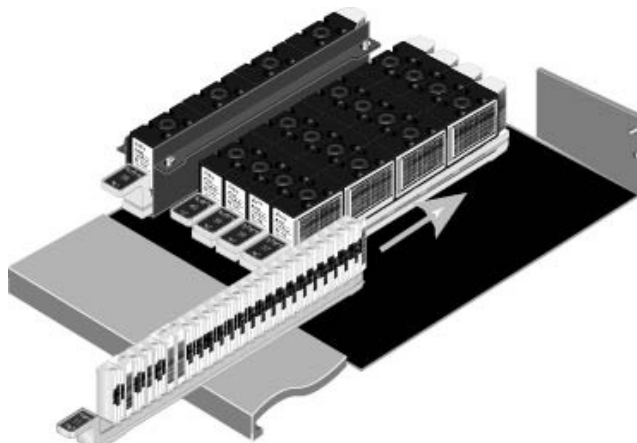

Figure 3.4
- 4 Continue sliding the rack to the back of the instrument (Figure 3.4).